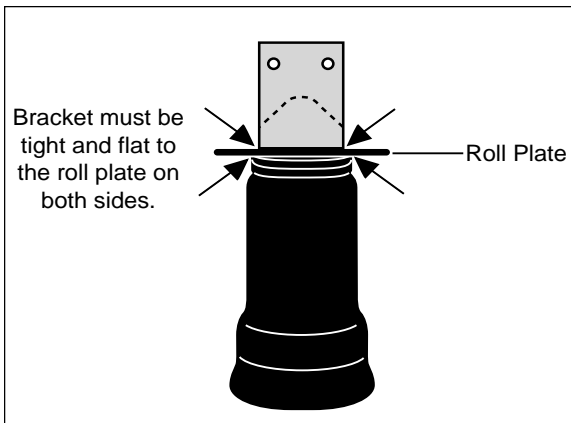

Figure 2
- b. In order to use the adapter bracket, slide the adapter under the lower bracket and lock in place by inserting the tabs on the adapter through the original mounting holes in the lower bracket (Figure 2).
- d. It is necessary to remove the lower shock absorber mounting bolt. Position and tighten the provided U-bolt with the lower bracket/adaptor assembly in place. Be sure to use two (2) washers on each leg of the U-bolt (Figure 2).